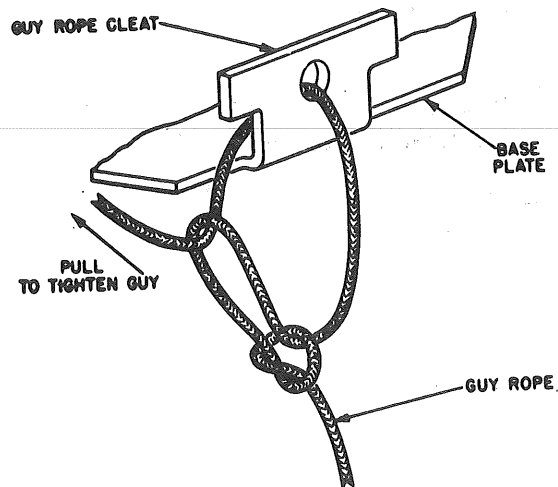
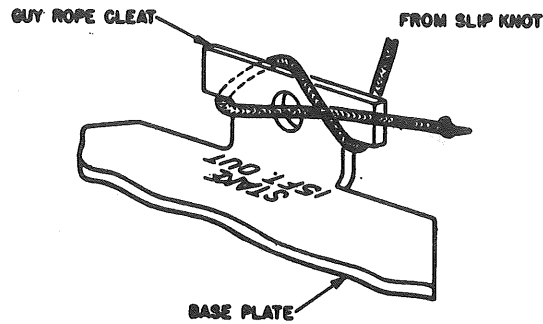

Figure 7. Slip knot for tightening guy rope.
Figure 8. Hitch for securing end of guy rope.
- (4) Pass the free end of each guy through the center hole of the cleat. Tie a slip knot (fig 7) about 3 feet from the cleat, between the cleat and the guy stake.
- (5) Pass the free end of the guy through the slip knot and back to the cleat.
- (6) Pull the guy loosely-taut (not tight or stretched) and secure it with a hitch (fig 8).
- (7) Snap the third guy rope in the upper hole of the guy plate and lay the guy along the mast toward the third guy stake.
- (8) Attach the guys to the upper guy plate in the same manner.
(1) Installer--hold the free guys taut, at the third guy stake.
(2) Assistant--adjust the remaining 4 guys to balance the antenna in the vertical position.
(3) Assistant--pass the ends of the free guys through the "D"-ring of the third guy strap and secure the third guy to the base plate cleat (figs 7 and 8).